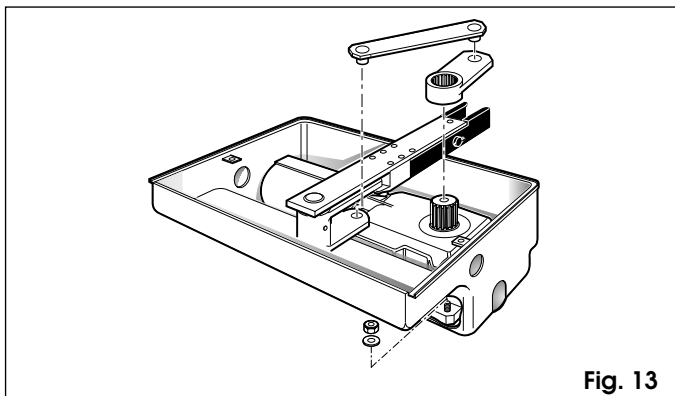

Fig. 13
- 2) Place the operator on the fastening screws on the foundation box, and fix it by means of the nuts and washers supplied (fig. 13).
- 3) Manually close the leaf and fit the driving levers supplied, as shown in fig. 13.